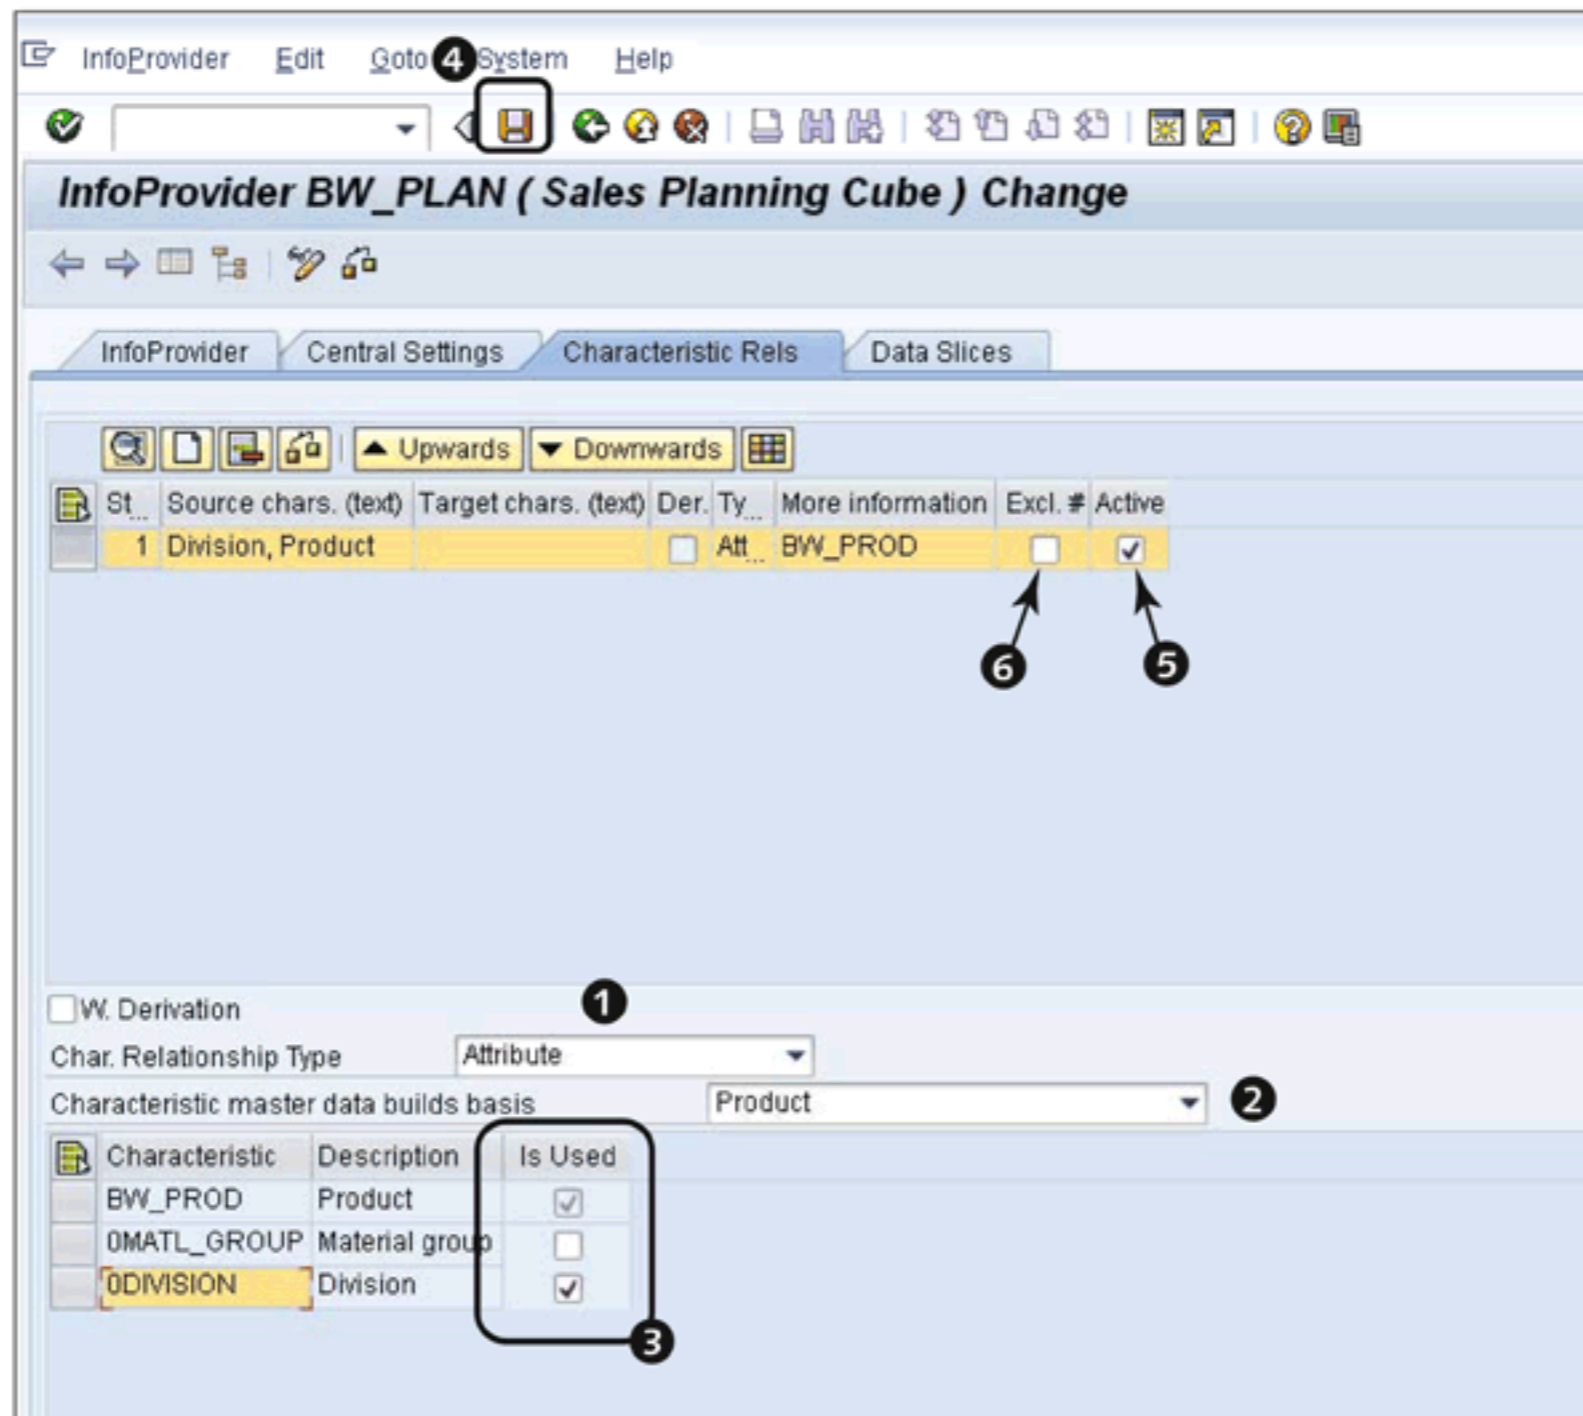

Figure 12.15 Define Characteristic Relationship Without Derivation
In this example, we select **ATTRIBUTE** as the base for the characteristic relationship (1 of Figure 12.15).
In this example, we want to check and propose the valid combinations of product (defined using the material InfoObject **BW_PROD**) and product range (defined using the division InfoObject **ODIVISION**). Select **DIVISION** under the **IS USED** column, as shown in (3 of Figure 12.15. Save this definition of the characteristic relationship by clicking on the **SAVE** button (4).
This characteristic relationship allows and proposes only those combinations that exist in the master data BW_PROD. You can further set this characteristic relationship as inactive by deselecting the ACTIVE checkbox shown in 5 of Figure 12.15.
Also, you can decide if the characteristic relationship has to exclude the blank values (i.e., records with value = "#"), by checking the checkbox EXCL. #, as shown in 6 of Figure 12.15.